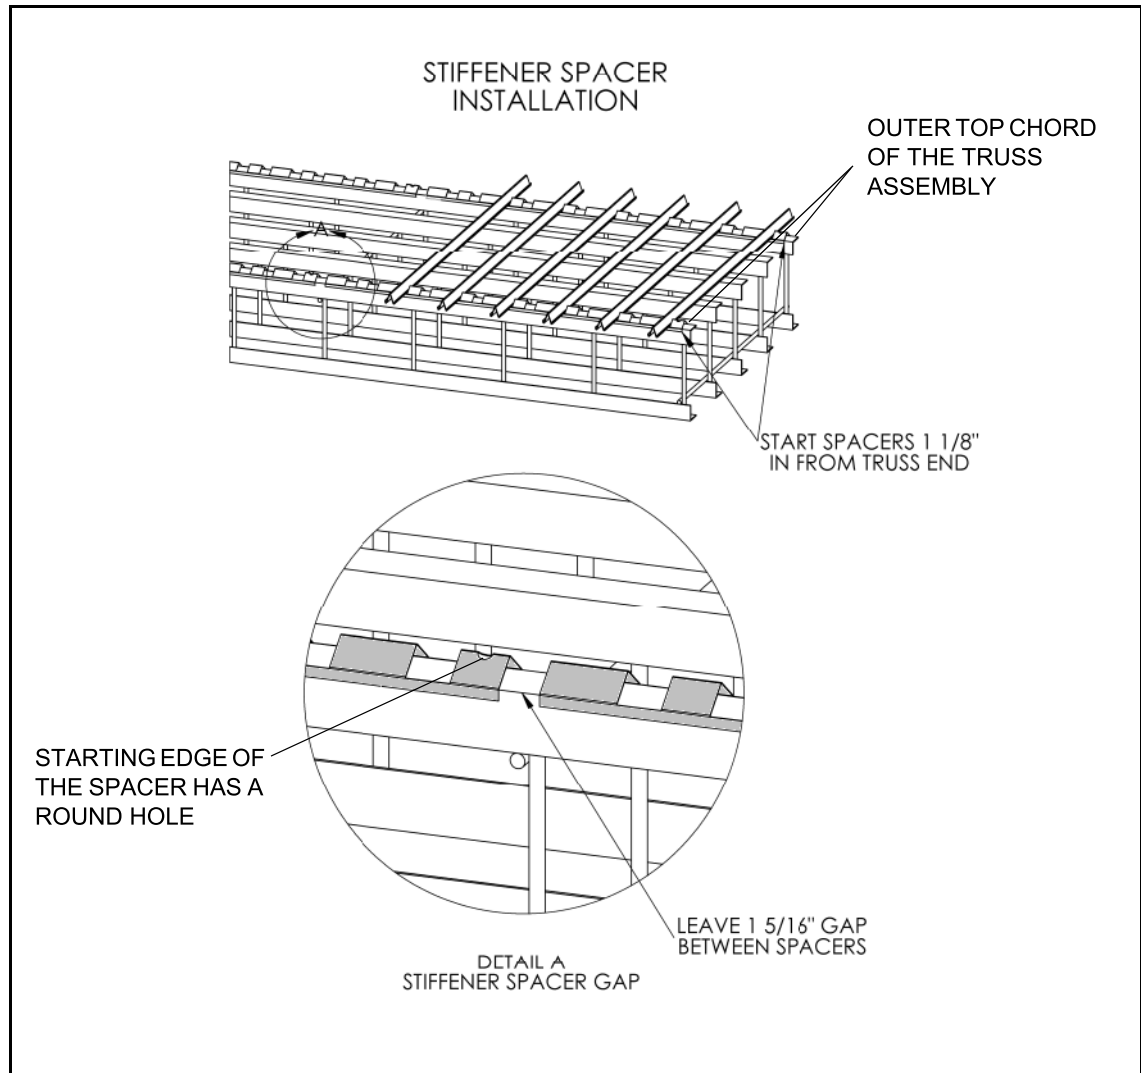

Figure 2.13
5. If plank stiffeners are included in the flooring package, install first the spacer by positioning its starting edge 1-1/8" from the end of the outer top chord of truss assembly (Figure 2.13). Press the spacer onto the chord to fasten. Starting edge of the spacer is identified by a round hole.
6. Succeeding spacers must be spaced 1-5/16" from the previous spacer. Place stiffeners in the 1-1/2" notches along the spacer's length (Figure 2.13).